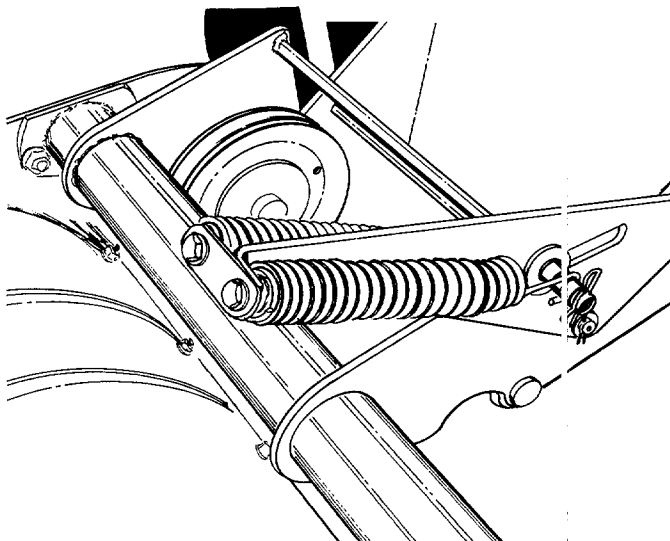

FIGURE 10.
20. Attach the lift rod assembly to the rod which is part of the pivot bracket assembly as follows. See figure 10. ←